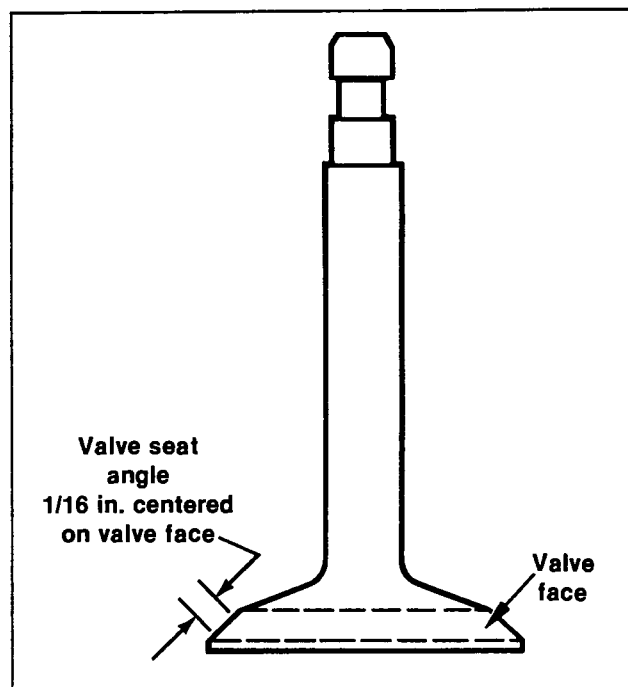

Figure 2. Intake Valve
3. Apply blueing to valve and install valve in head. Rotate valve against seat. Remove valve and check contact pattern. Valve seat should be 1/16 in. wide and centered on valve. (See Figure 2.)